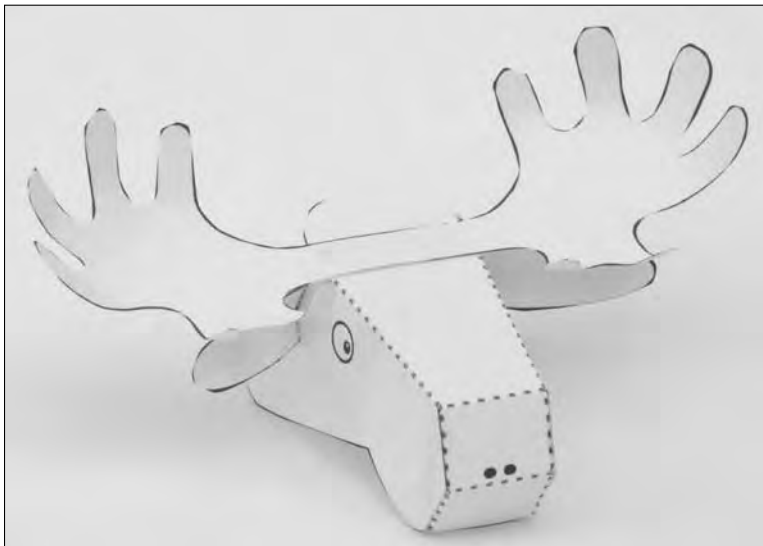

Figure 11-7:
3. **Glue the parts of the head together (using Figure 11-7) and add the ears and antlers.**